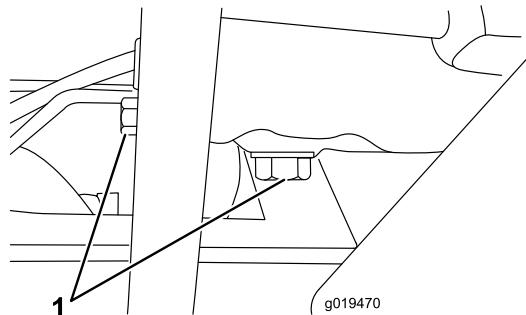

Figure 57
1. Remove drain plug (Figure 57) and let oil flow into drain pan. When oil stops, install drain plug.